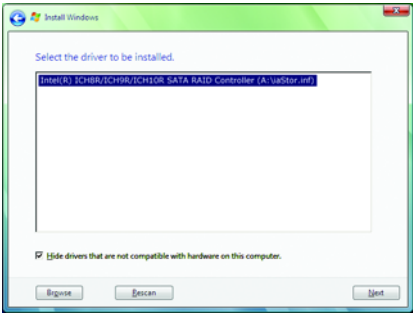

Figure 10
(Note) The item displayed in Figure 10 will be shown as **Intel(R) ICH10R SATA AHCI Controller** when the SATA controllers are set to AHCI mode.